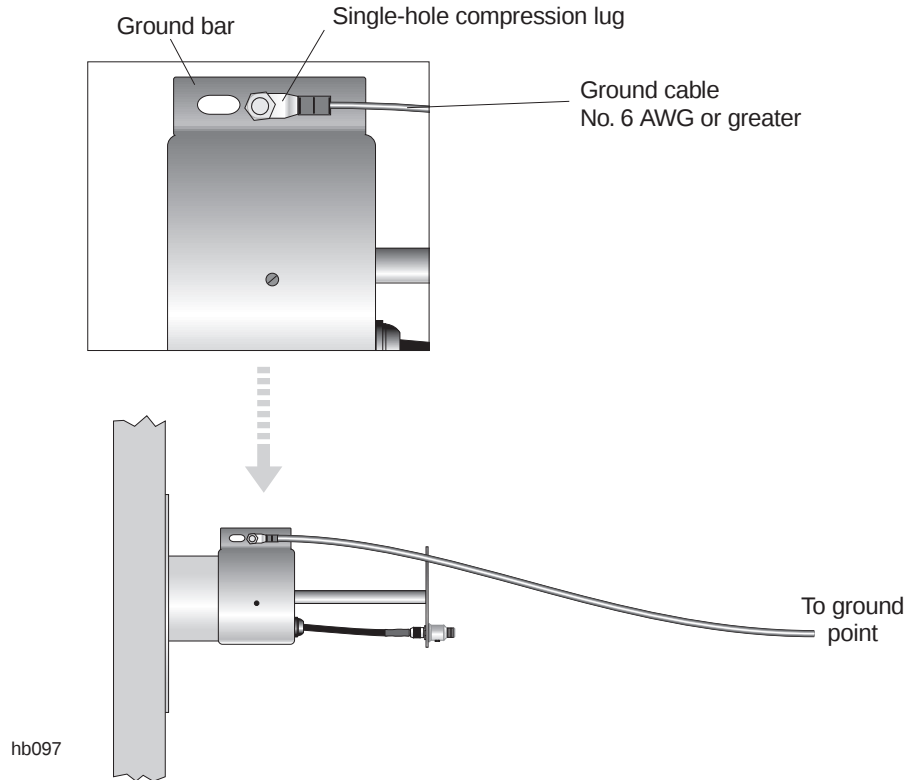

Figure 5-9 Hub lightning arrester grounding connections
1. Connect one end of the ground cable (No. 6 AWG or greater, green) to the lightning arrester ground bar, as shown in figure 5-9.